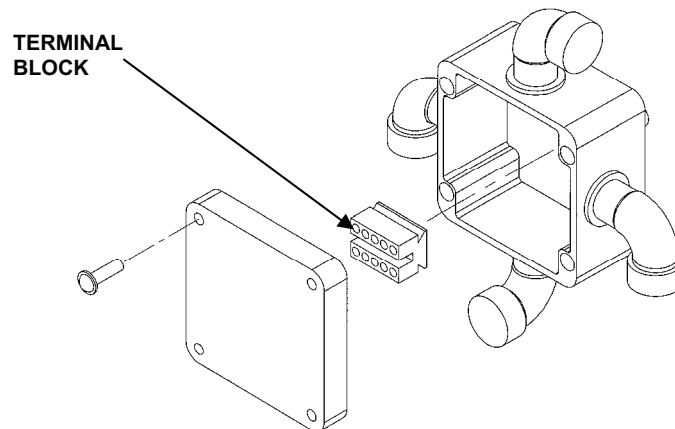

Figure 3. Terminal Block.
8. Remove end stops from mounting rail. Pry off the terminal block from the mounting rail. See Figure 3.